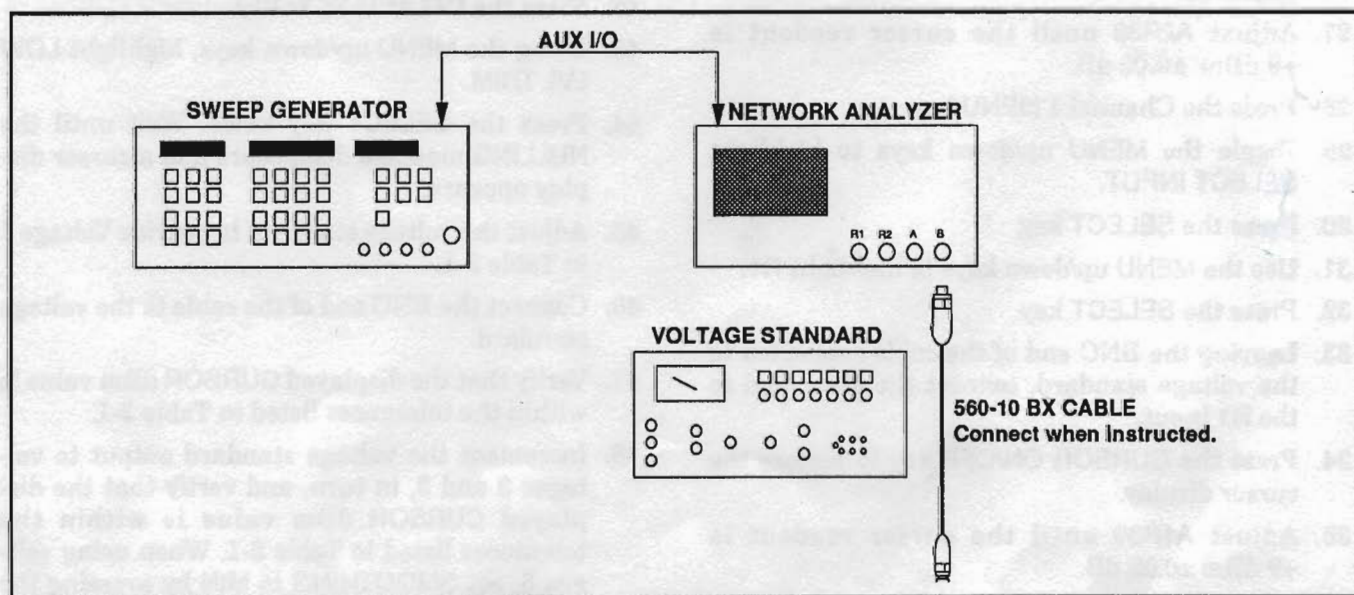

Figure 3-1. Test Equipment Setup for Adjustment Procedure
1. Set up the test equipment as shown in Figure 3-1.